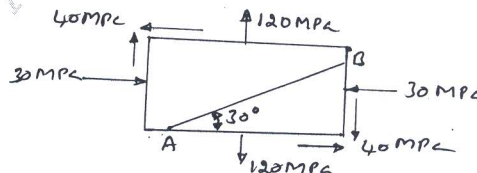

Fig.Q3(c)
- c. At a point in a strained material the stress condition shown in Fig.Q3(c). Find